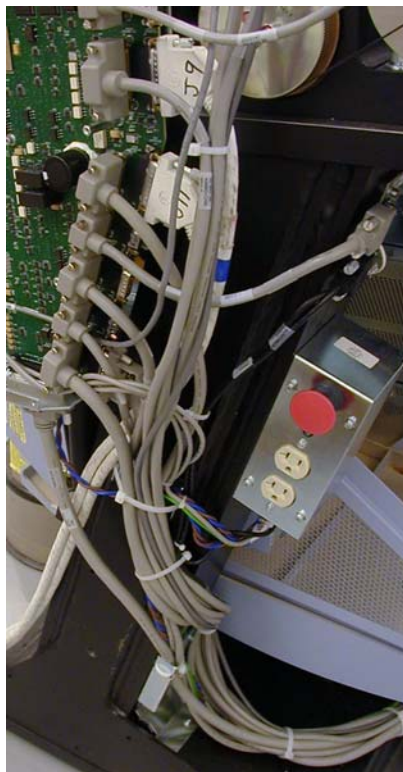

Figure 3-12 Install Cable 2355108
- 3.) Install cable 2355108 to J27. See Figure 3-12.